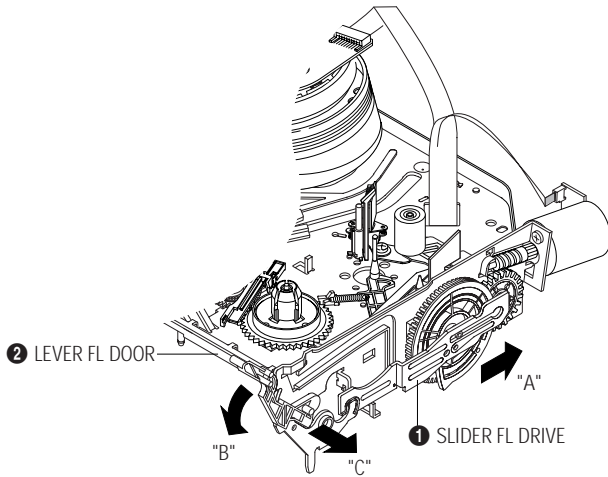

Fig. 5-13 Lever FL Door Removal
- 1) Pull the Slider FL Drive ❶ to the front direction.
- 2) Remove the Slider FL Drive ❶ in the direction of arrow. (Refer to Fig. 5-13)
- 3) Remove the Gear FL cam ❷.